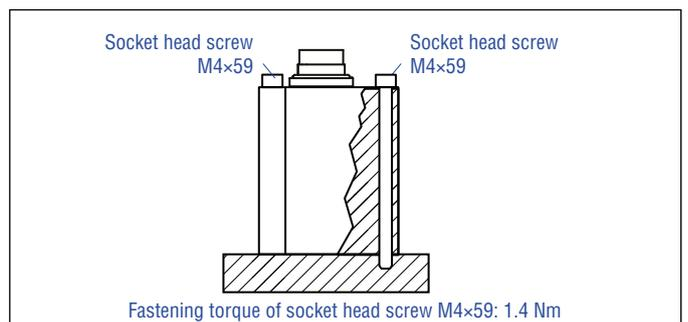

Fig. 22: Mounting with socket head screws M4×59
3. Mount the sensor electronics housing using the three M4×59 hexagon socket screws made of non-magnetic material. Tightening torque: 1.4 Nm (Fig. 22). Secure the screws before installation, e.g. with Loctite 243. Remove the three knurled nuts beforehand.
2. Mount the sensor electronics housing to the sensor rod or HFP profile using three M4×59 hexagon socket screws made of non-magnetic material: Tightening torque: 1.4 Nm (Fig. 22). Secure the screws before installation, e.g. with Loctite 243. Remove the three knurled nuts beforehand.
- Mount the sensor via flange using the three M4×59 hexagon socket screws made of non-magnetic material. Tightening torque: 1.4 Nm (Fig. 22). Remove the three knurled nuts beforehand.